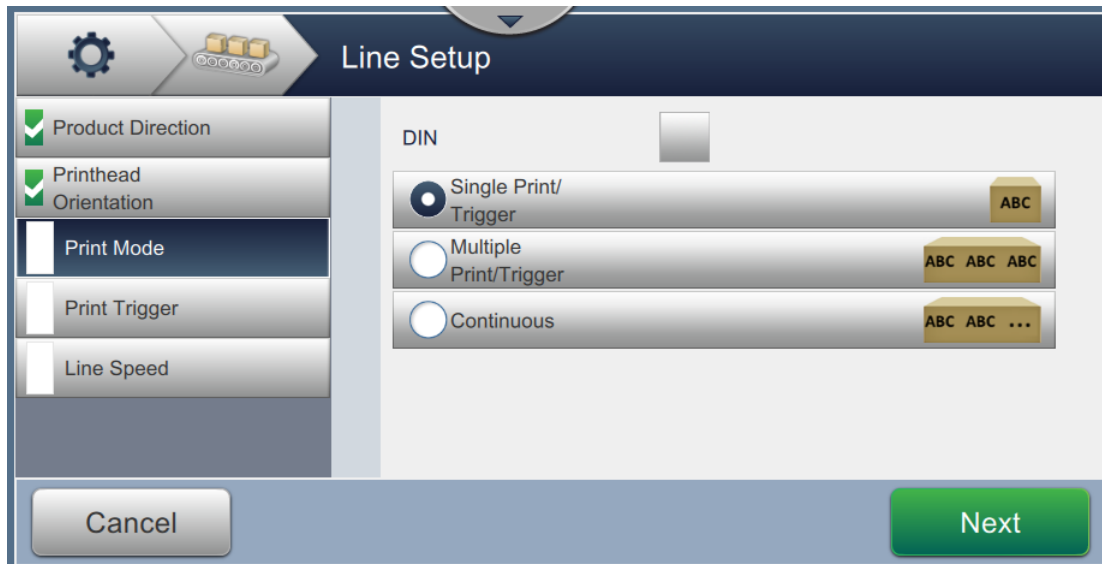

Figure 6-30: Line Setup - Print Mode
1. Touch the *Print Mode* on the Line Setup Setting screen as shown in Figure 6-30.
1. Select the *Multiple* option as shown in Figure 6-30. Touch the
1. Select the *Continuous* option as shown in Figure 6-30. Touch the  button.